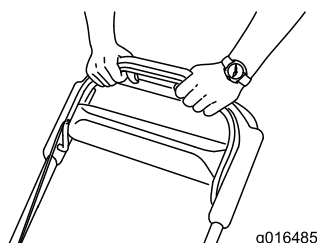

Figure 22
2. Hold the blade-control bar against the handle (Figure 22).